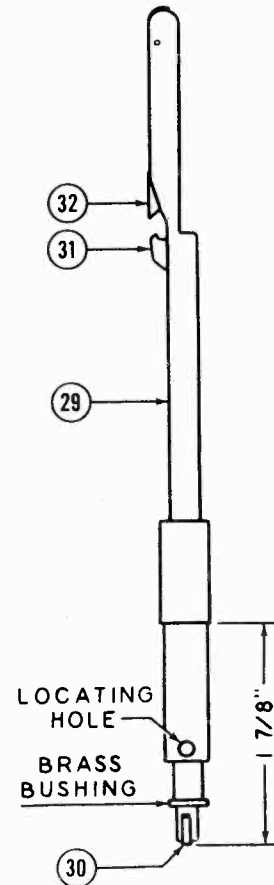
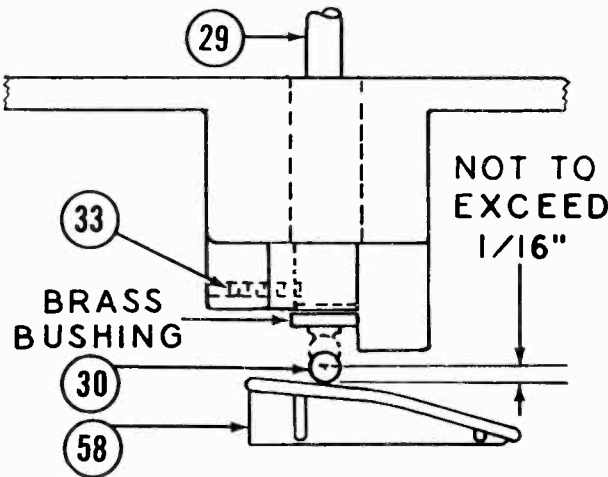

Fig. 11
Fig. 13
- b. Replace with new Center Post (29) making sure Set Screw (33) engages hole near bottom of Center Post (29) (See Fig. 11).
2. Ejector Lever (31) does not move out far enough.
- a. Check to see if the scored indents on the side of the Center Post (29) opposite the Ejector Lever (31) are preventing this lever from coming out far enough. If this is so, file off any interfering burrs at sides of scored areas.
- b. Check to see if Screw (61) is loose.
3. Ejector Lever (31) pushing up whole stack of records. This lever should first rise inside the slot in the Center Post (29) then move forward pushing one record off the shoulder of Center Post (29). If Ejector Lever (31) is being pushed forward prematurely, the Center Post (29) will have to be replaced.
4. Lift Arm (58) not turning during cycle. Check for broken roller on Lift Arm (58).
- a. Remove Idler Wheel (46). Take off Lift Arm (58). Turn Control Button (37) to "REJ." position. Replace Turntable (34) and rotate it very slowly by hand thru one cycle, checking for any binding action. If binding occurs check for: foreign matter in the gear teeth of the Main Cam (56) or (69), bent main cam bearing shaft, bent center post bushing.
- b. Replace Lift Arm (58). This time remove "C" Washer (62) at base of Lift Rod (23). Lift Pick-up Arm (1) and take out rod. Remove Lift Rod Spring (63). Now loosen Set Screw (33) and raise Center Post (29) so that inclined plane of Lift Arm (58) will not contact it. While holding Center Post in this position, cycle changer by hand and again check for any binding action. If binding occurs, check lift arm bearing for freedom and lift arm roller to be sure it is not bent causing binding in the heart shaped groove in the Main Cam (56) or (69).
6. Binding between Lift Rod (23) and inclined plane of Lift Arm (58). Replace Lift Rod (23) taken off in Instruction 5 b, but leave Center Post (29) in raised position. Now rotate Turntable (34) until Lift Arm (58) has moved out as far as it will go and is about to return. Lift Pick-up Arm (1) and raise Lift Rod (23), by pulling up. Feel the Lift Arm (58). There should be a small amount of play. Lift Rod (23) may still be contacting the inclined plane but it should not bind. If this does occur, the lift arm bearing shaft may be bent or the fiber washer under the Lift Arm (58) should be removed to lower the arm.
7. Center Post Roller (30) being compressed too far. Replace Center Post (29) to its normal position which was raised for Tests 5 and 6. Turn Control Button (37) to the "REJ." position. Rotate the Turntable (34) by hand while watching the action of the lower part of the Center Post (29) as the roller goes up the inclined plane of the Lift Arm (58). As the Center Post Roller (30) approaches the end of the face, the brass bushing is stopped by the Base Plate (64) (See Fig. 13) but the Center Post Roller (30) continues and is further compressed a distance not to exceed 1/16". Should the latter movement exceed this, the changer may stall in the cycle due to excessive pressure caused by binding of Lift Arm (58).
- a. Should the above occur check the lift arm bearing shaft to determine that it is square with the Base Plate (64).
- b. Try removing fiber washer between metal washer and bottom of Lift Arm (58).
- c. Center Post (29) may be too long. The critical 1 7/8" dimension shown in Fig. 11 should not be exceeded.
8. If change mechanism is not binding and Idler Wheel (46) is not slipping it may be assumed that the motor is weak (has low torque) and should be replaced.